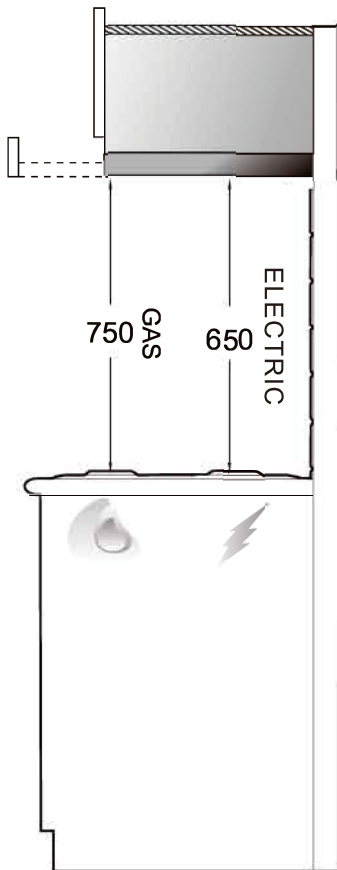

Fig.5
1. The hood is to be mounted on the mounting board of the cabinet. When installed, the hood must be not less than 65cm above electric burners or 75cm above gas or mixed-fuel burners. (Fig.5)